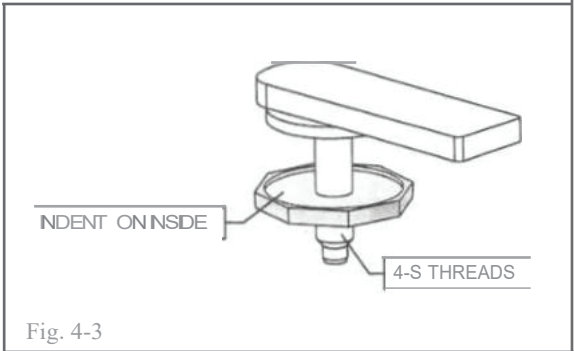

Fig. 4-3
- (d) Install one (1) plastic retainer ® with the indent on the inside onto each flag bolt © about 5 threads down, do this for all flag bolts (Fig. 4-3).